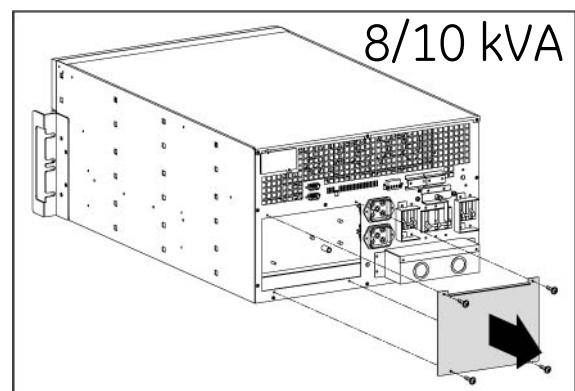

fig. 6.1.b
6. On 5/6 kVA models align terminals on the backside of the PDU with UPS ones and slide PDU in the UPS (fig. 6.1.c). On 8/10 kVA connect terminals on the backside of the PDU with connections in the PDU tray on the backside of the UPS and slide PDU in to the UPS (fig. 6.1.d).